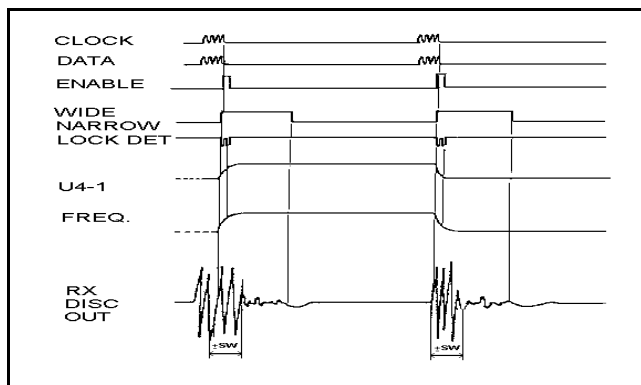

Figure 3 - Channel Switching Sequence
- b. The channel switching sequence and the action of the related functions are shown in figure 3.